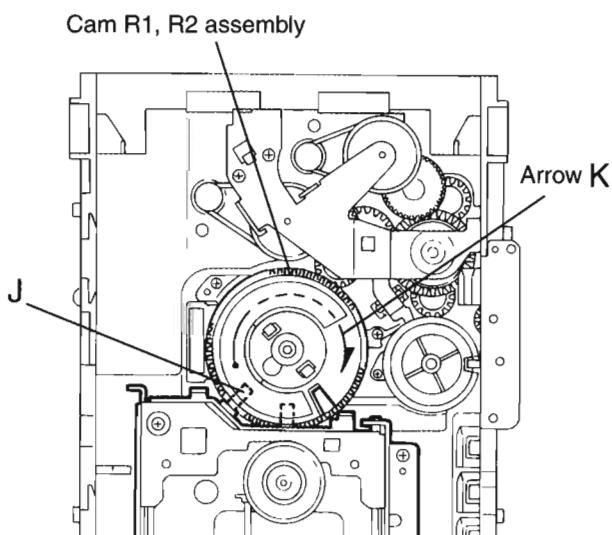

Fig.11
■ Removing the CD mechanism (See Fig.11 and 12)
1. For dismounting only the CD mechanism without removing the CD mechanism assembly, align the shaft "J" of the CD mechanism assembly to the position shown Fig.11 while turning the cam R1 and R2 assembly in the arrow direction "K".